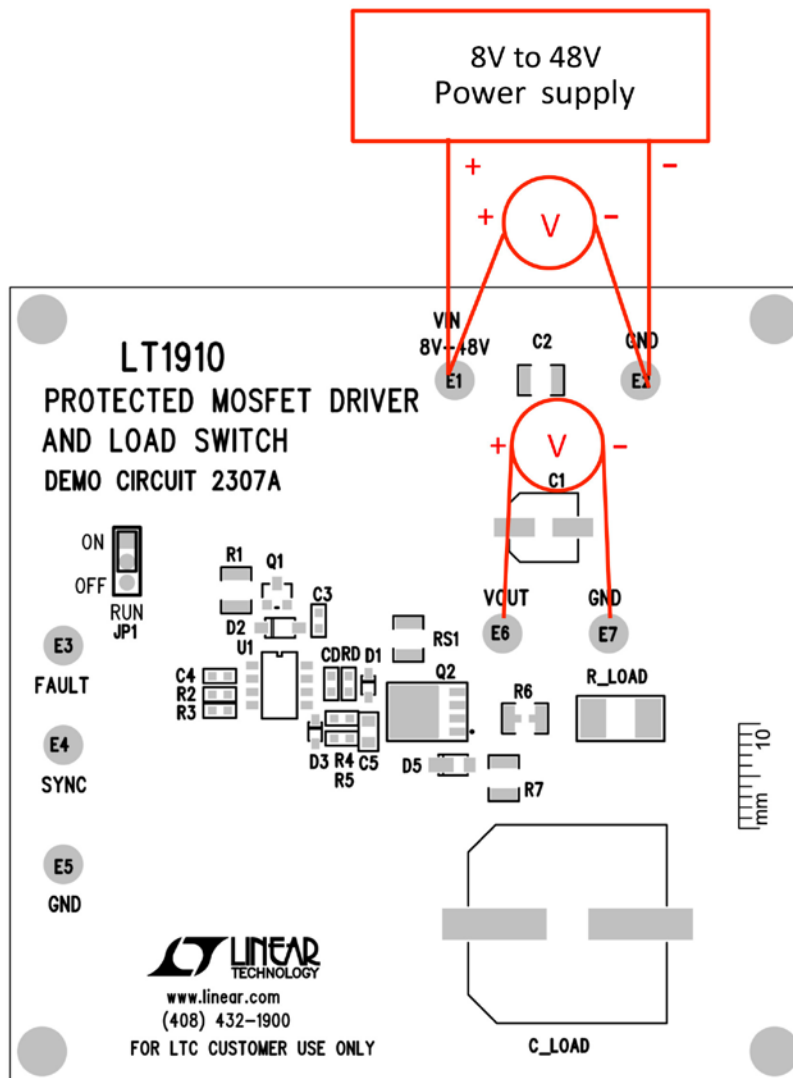
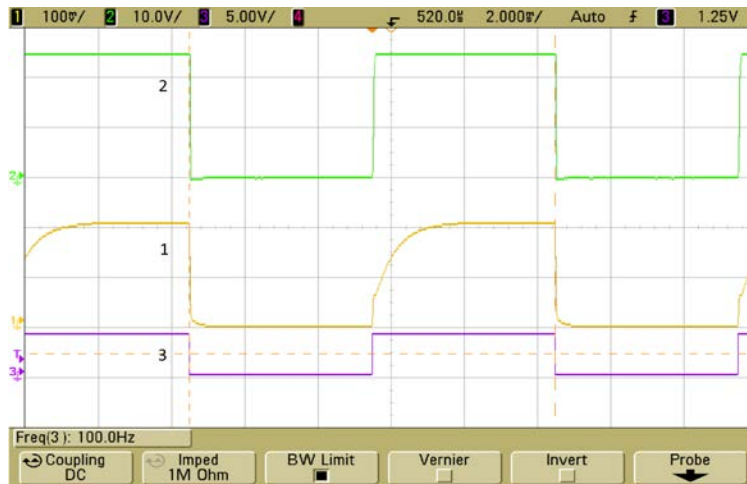

Figure 1. Proper Measurement Equipment Setup
Figure 2. High Side Driver Voltage Waveforms. CH 1 Q2 Gate Voltage Relatively to Source (5V/DIV), CH 2 VOUT, CH 3 Sync Signal.
The setup for DC2307A evaluation is shown in Figure 1. Sync pulses can be applied to terminals E4 (SYNC) E5 (GND) for synchronization to an external clock. In this case, the DC2307A supports a low bandwidth PWM. Figure 2 illustrates functionality of such solution with 100Hz switching frequency. Figure 3 shows the waveforms of the high side switch driver during a short-circuit with automatic restart.
Demonstration circuit 2307A is easy to set up to evaluate the performance of the LT1910. Set up the circuit according to the diagram in Figure 1.
1. With the DC2307A set up according to the proper measurement and equipment as shown in Figure 1, apply 20V at E1 (VIN). Measure VOUT; it should read 0V.